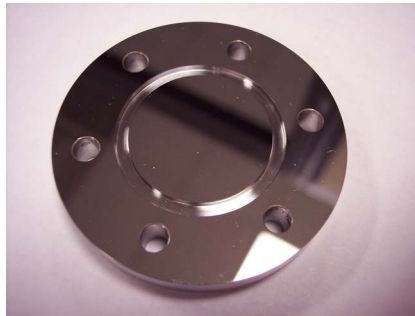

Figure B-2 *Stainless steel mirror;
7. Obtain the new stainless steel mirror. Refer to Figure B-2.